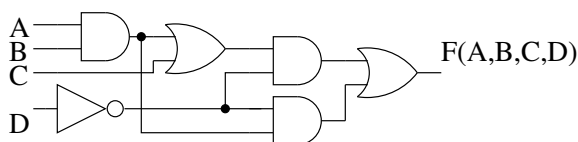

Figure 2.1: The circuit for Problems 2 and 3.
2. (2 pts. each) For the circuit in Figure 2.1